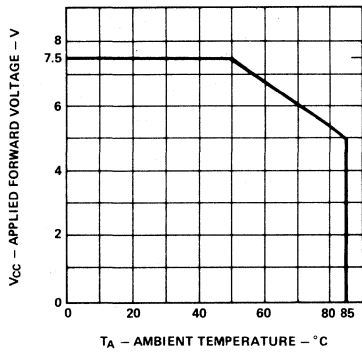

Figure 3. Maximum Allowed Applied Forward Voltage vs. Ambient Temperature R_{θJA} = 175°C/W. 5 Volt Devices.
2. Derate from T_A = 50°C at 0.071 V/°C, see Figure 3.